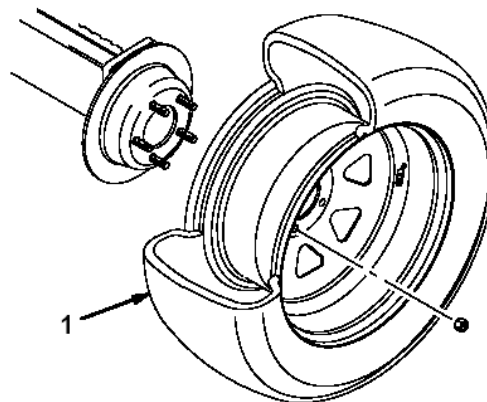
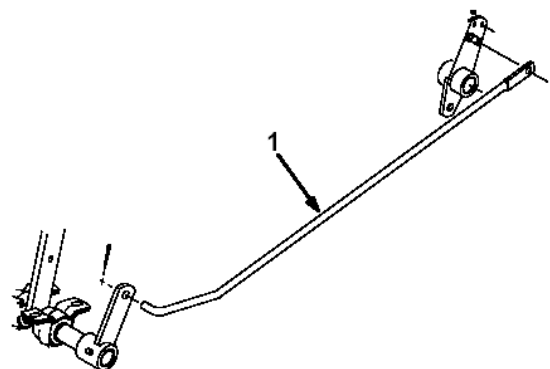

Figure 2
Figure 3
6. To gain access to the lift cylinder pins, the wheel and tire assembly (Fig. 2) and brake rod (Fig. 3) must be removed.
18. Reinstall the brake rod (Figs. 3) and wheel and tire assembly (Figs. 2).